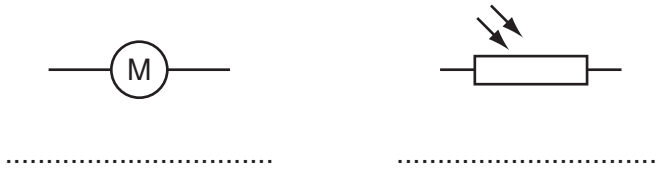

Fig. 1
- 1 Fig. 1 shows two circuit symbols.